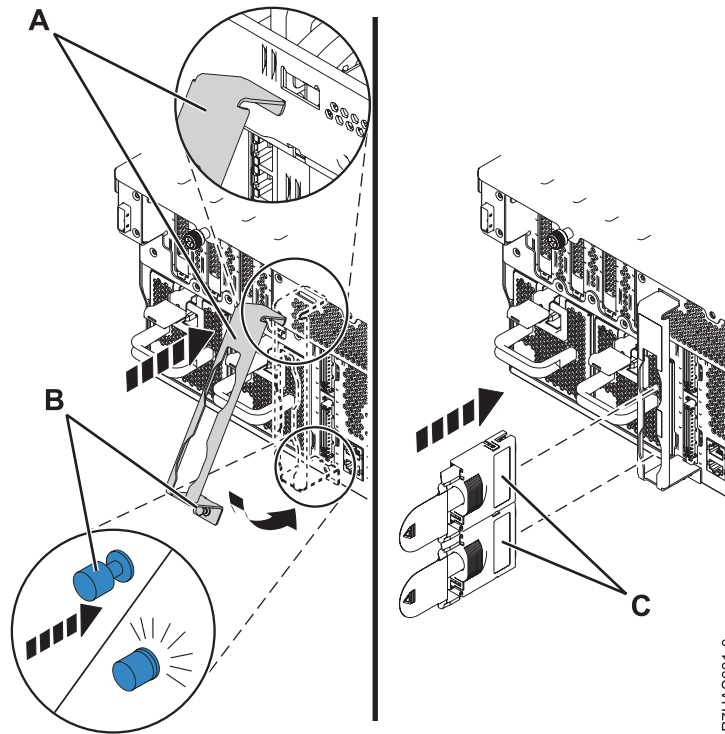

Figure 5. Cable retention bracket installation
15. If the cable retention bracket (A) is provided, perform the following steps:
- a. Install the cable retention bracket (A). Tilt the cable retention bracket, shown in Figure 5 on page 6, to hook the tab at the top of the bracket into the slot in the assembly.
- b. Swing the cable retention bracket toward the chassis and push the bracket fastener (B) into the chassis opening to secure the bracket.